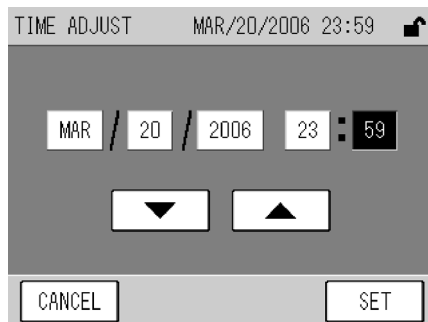

Fig. 75 TIME ADJUST screen
- [TIME ADJUST]: Displays the TIME ADJUSTMENT screen (Fig. 75 on page 59).